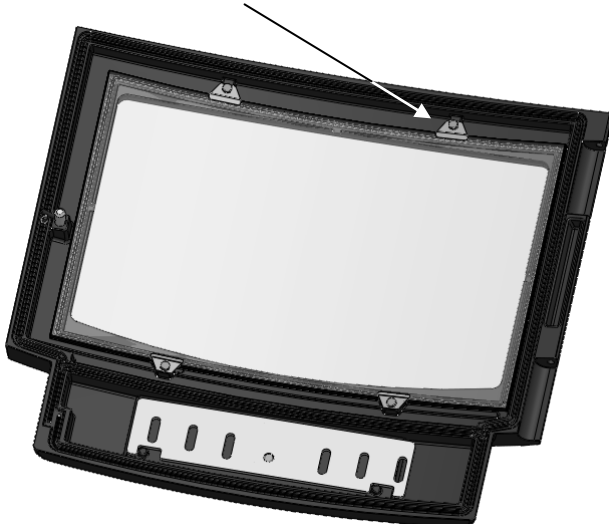

Fig. 15. Tightening The Glass Clip
- Replace the four retaining clips and fixing bolts. Do not over tighten the fixings as damage may occur to the glass. **ONLY USE HAND TOOLS TO TIGHTEN FIXINGS.** See Fig.15.